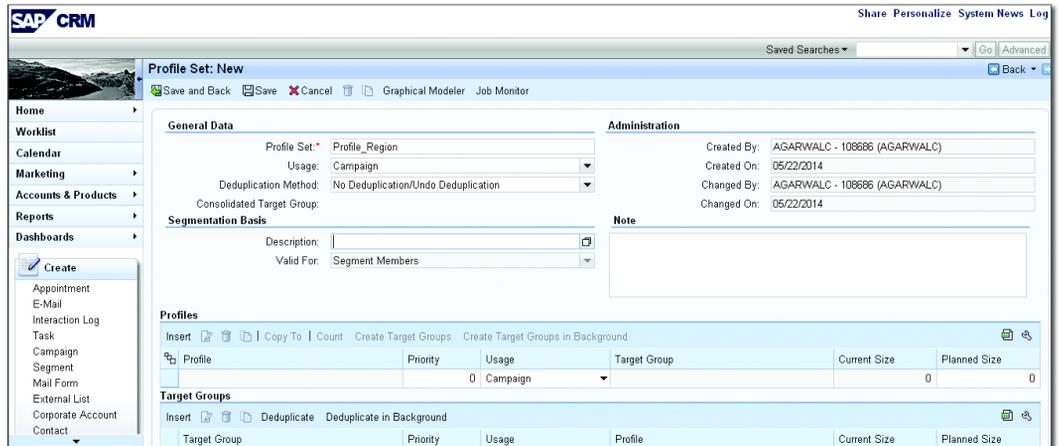

Figure 5.49 Create Profile Set
7. Now create the profile set. Log in to BUSINESS ROLE • MARKETINGPRO, and select SEGMENT in the marketing workcenter. In the USAGE field, select CAMPAIGN, and save the profile set. Select the graphical modeler on the PROFILE SET screen (see Figure 5.49). This will take you to the graphical view of the segmentation.